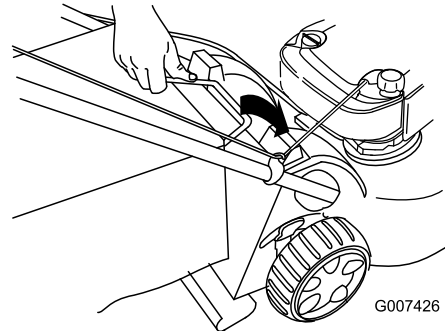

Figure 31
3. Insert the grass bag handle into the grooves at the top of the mower (Figure 31).